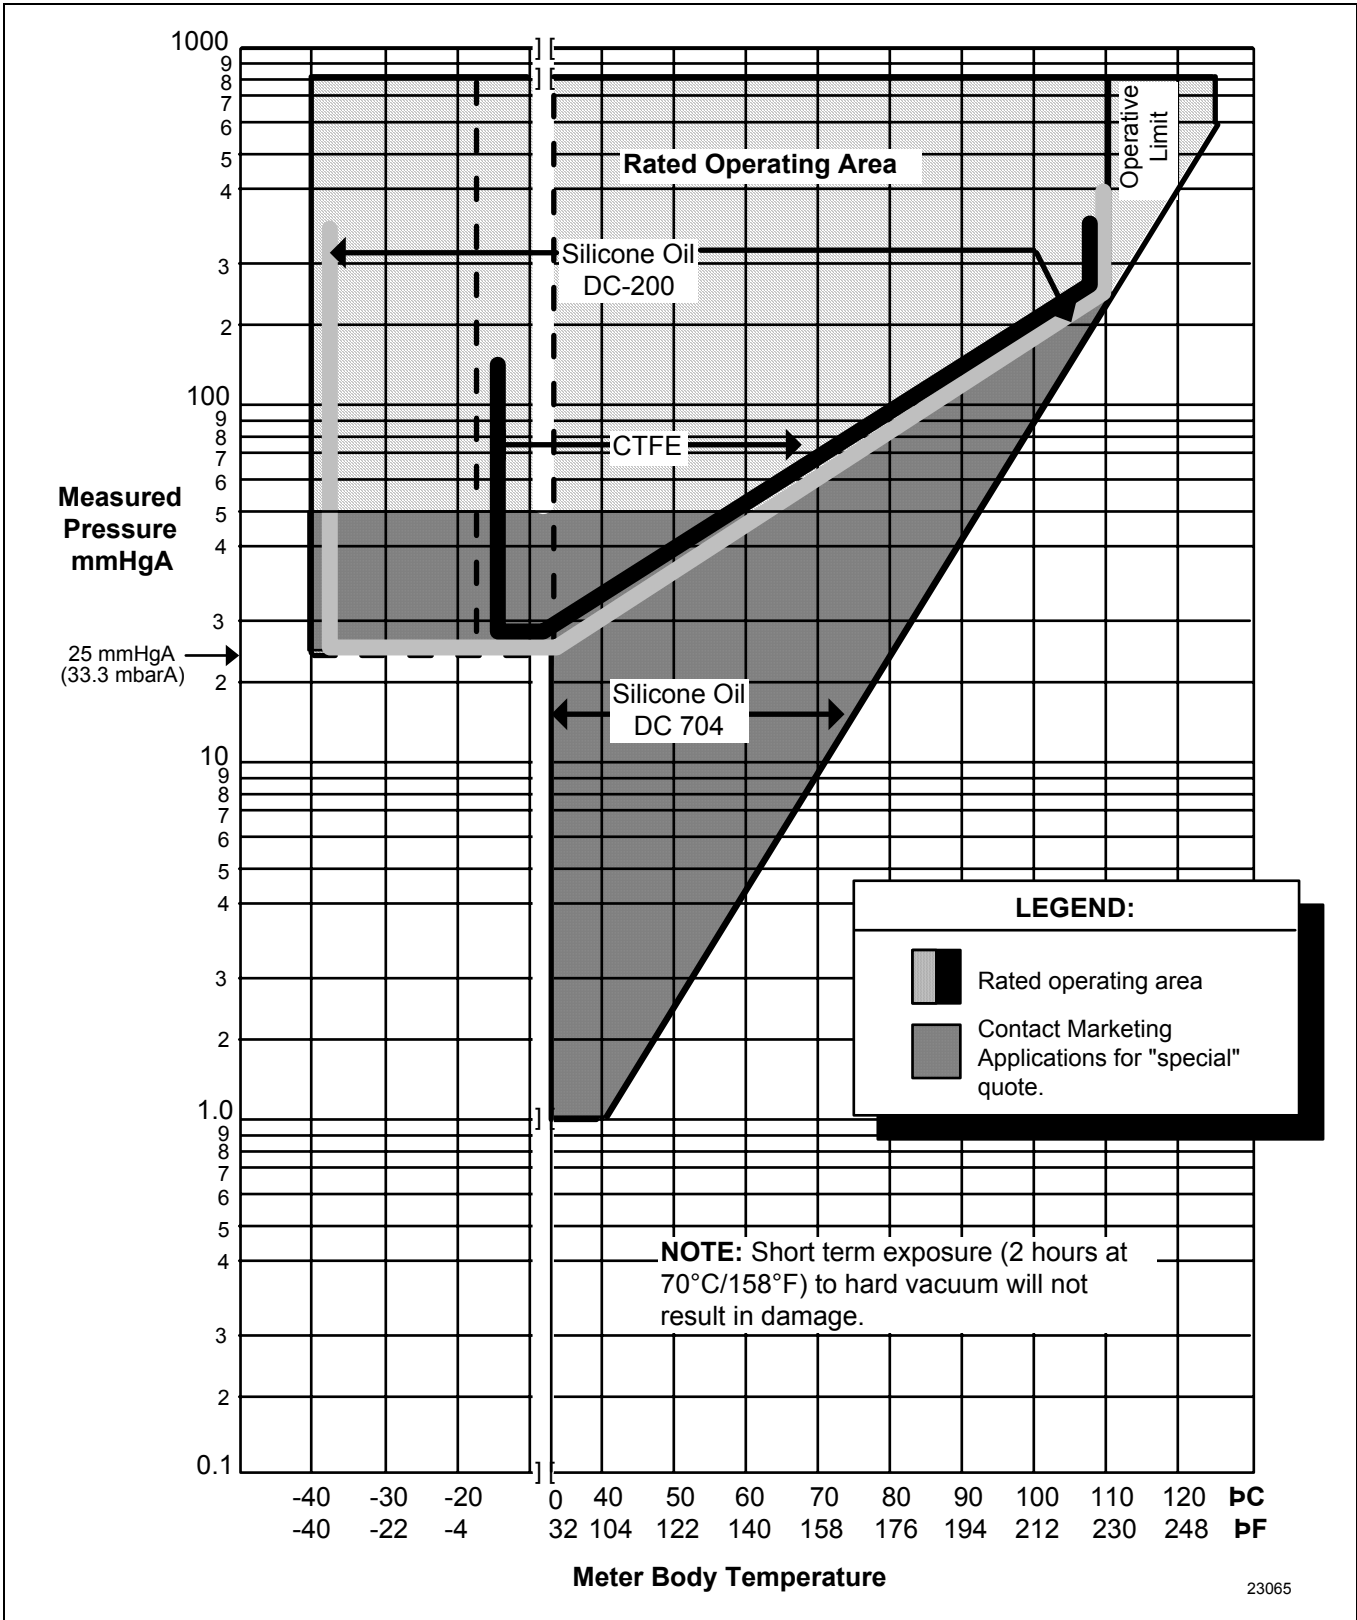

Figure 2—Measured pressure versus meter body temperature chart for model STA922
Vacuum Region - Minimum Pressure STA922 STA940	See Figure 2. Operate within specifications above 25 mmHgA (33 mbarA). Short term exposure (2 hours at 70°C/158°F) to full vacuum will not result in damage.
**** If STA922 operating below 50mm HgA, see Figure 2 in Specification 34-ST-03-65 and